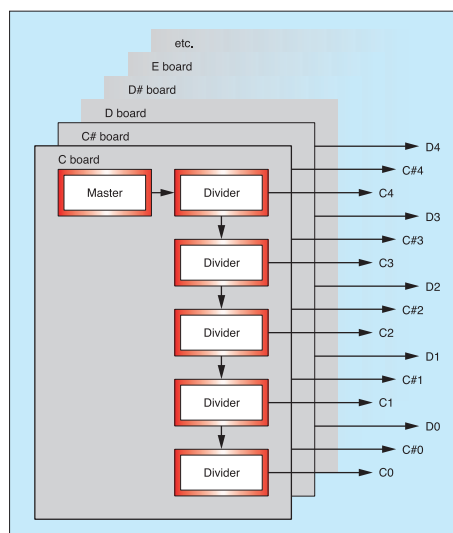

Figure 5: Generating the full range of pitches using octave dividers.
► through devices called octave dividers. These reduce the initial frequencies by factors of two, four, eight... and so on, thus creating the correct frequencies for all of the Cs across the keyboard, all of the C#s, all of the Ds... and so on (see Figure 5, right).